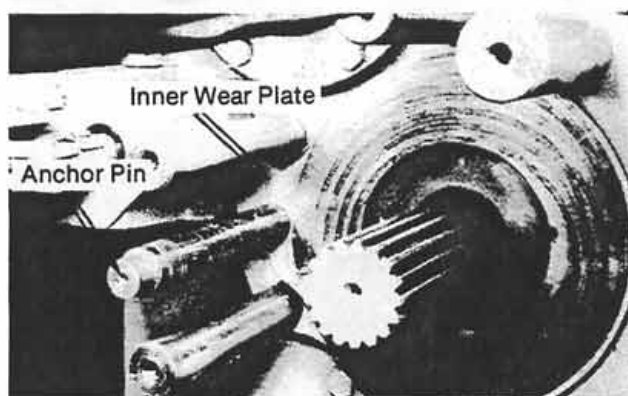

Figure 5:
4. Remove the anchor pin and inner wear plate (Fig. 5) from the bearing cap/brake plate assembly.